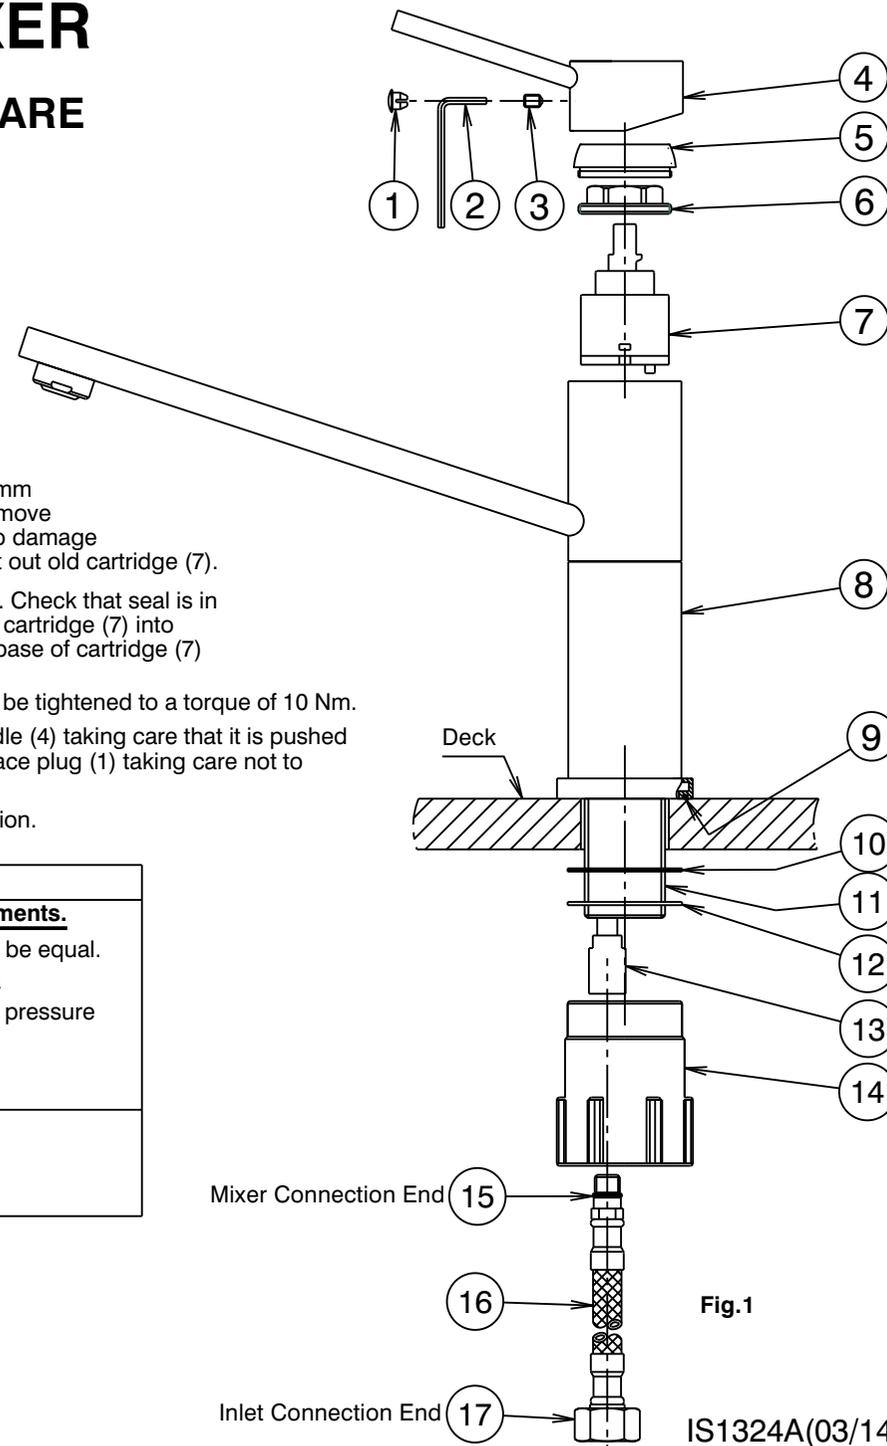

Fig.1
#### Installation (Fig.1)
- 1) Ensure seal (9) is installed into groove in base of body (8).
- 2) Insert threaded tail (11) of mixer body (8) into deck hole. Fit rubber washer (10), followed by plastic washer (12), over the threaded tail of the mixer (8) as shown (Fig. 1). Screw on nut (14) and tighten firmly by hand to secure the mixer to the deck.
- 3) *Flexible Tail Mixer Connections:* Apply suitable lubricant to 'O' rings (15). Fit flexible tail (16) (with red indication) into inlet fitting (13) marked with a red dot. Hand tighten the tail, ensuring the 'O' ring (15) has fully entered the sealing bore to provide a watertight joint. Fit other flexible tail (with blue indication) into remaining tail in a similar manner.
- 4) *Flexible Tail Inlet Connections:* Connect the flexible tails (16) to the hot and cold isolating stop taps, hand tighten the connecting nut (17) until rubber cone contacts the sealing face of the connection end, then tighten a further one turn to provide a watertight joint.
#### Replacing Cartridge (Fig. 1)